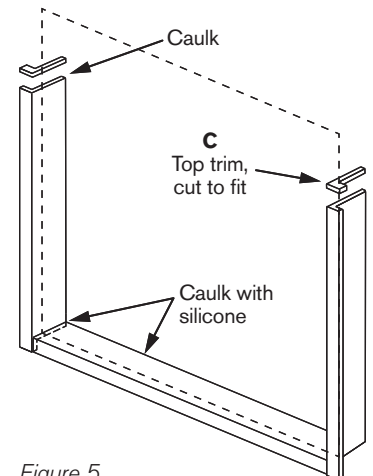

Figure 5
4. Cut top trim pieces (**C**) to fit and install (Figure 5).
5. Caulk all joints and corners with silicone (Figure 5).